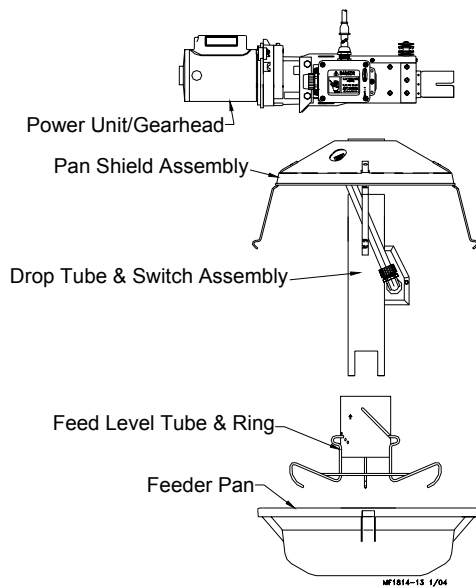

Figure 29. Drop Tube & Switch Assembly
5. Insert the Drop Tube and Switch Assembly through the Pan Shield, from the bottom, see figure 29. The hole in the Pan Shield should be located on the same side of the Drop Tube as the Switch Cord and directly under the white box on the body assembly. Bolt the Drop Tube to the Body Assembly. The switch on the Drop Tube should be mounted opposite the Power Unit.